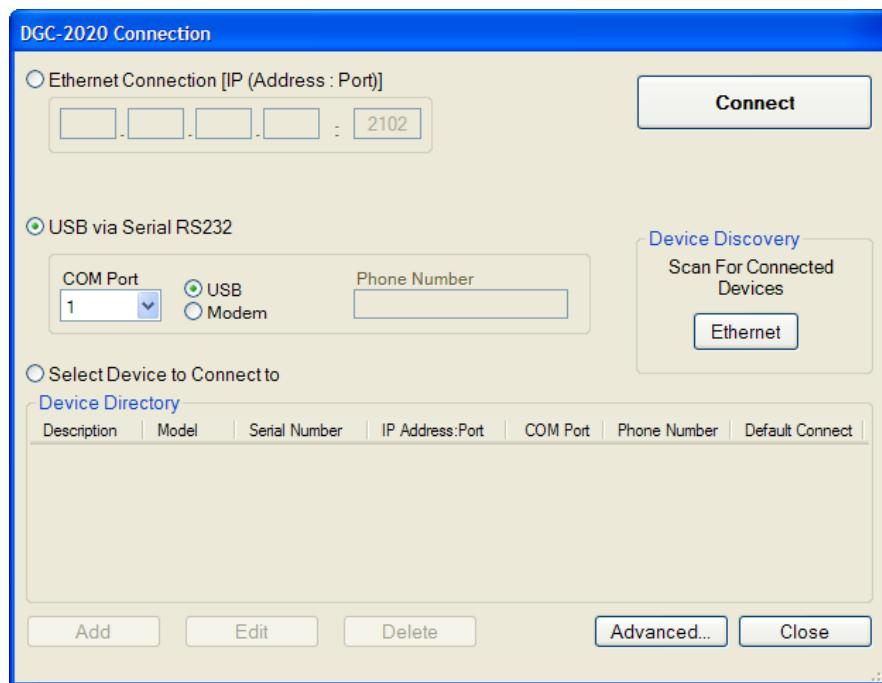
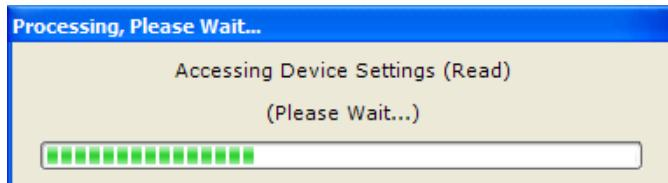

Figure 4-5. DGC-2020 Connection Screen
Figure 4-12. Processing, Please Wait...
The DGC-2020 Connection screen shown in Figure 4-5 will appear.
5. Connection to the DGC-2020 can be made through Ethernet via an LSM-2020 with properly configured network settings. When making a new connection to the DGC-2020, the *Ethernet Connection* option shown in Figure 4-5 will allow the user to enter the IP address of the LSM-2020 with which to connect. The *Ethernet* button under *Device Discovery, Scan for Connected Devices*, allows automatic detection of any LSM-2020 devices connected to the local network.
Communication between BESTCOMSPlus and the DGC-2020 is established by clicking on the *Connect* button on the *DGC-2020 Connection* screen (see Figure 4-5) or by clicking on the *Connect* button on the lower menu bar of the main BESTCOMSPlus screen (Figure 4-1). If you receive an “Unable to Connect to Device” error message, verify that communications are configured properly. If communication is established, BESTCOMSPlus will read all settings and logic from the DGC-2020 and load them into BESTCOMSPlus memory. See Figure 4-12.